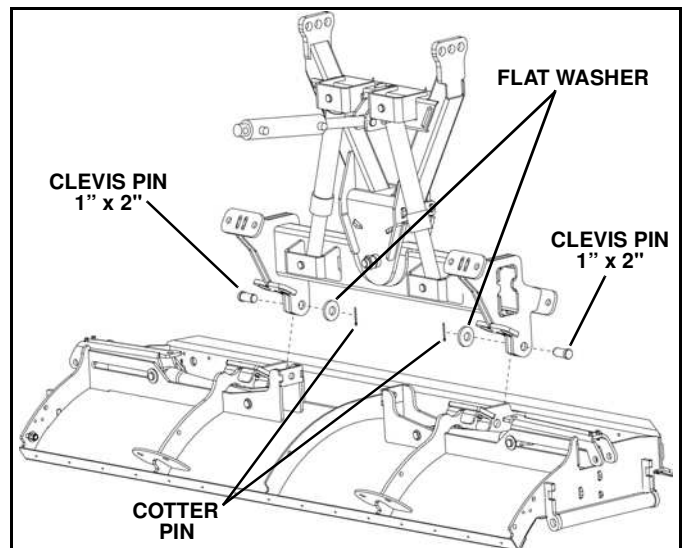

Figure 1-5
5. Remove A-Frame and swing frame assembly from box. Place A-Frame and swing frame assembly on blade and insert two 1" x 2" clevis pins from blade parts bag. The ribs on either side of the center rib should be between the swing frame lugs. (See Figure 1-5).